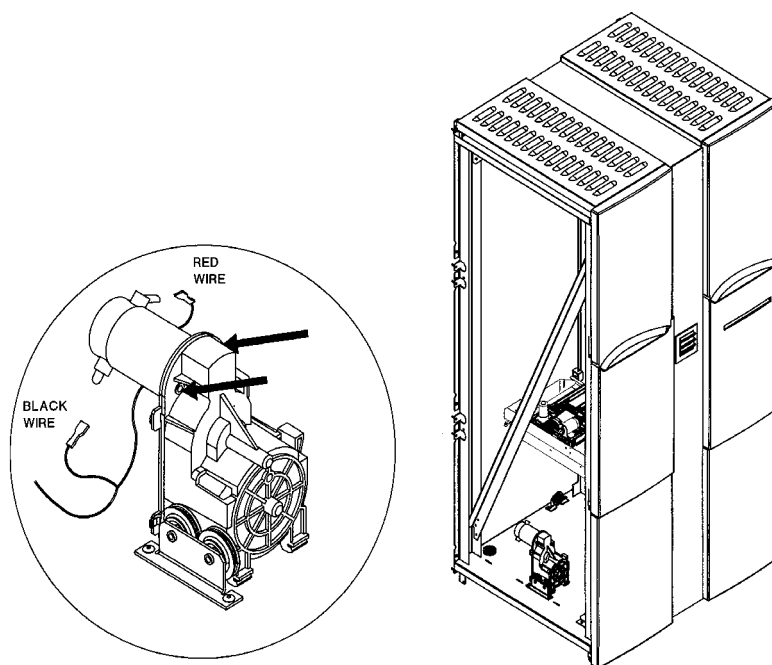

Figure 74: Cables and Mounting Screws on the Vertical Motion Motor
Extra panels are removed in Figure 74 for parts visibility in this description.
2. Disconnect the red and black power cables to the vertical motor (see Figure 74).
3. Remove two T-15 motor mounting screws on the gear box. Remove the motor (see the arrows on Figure 74).